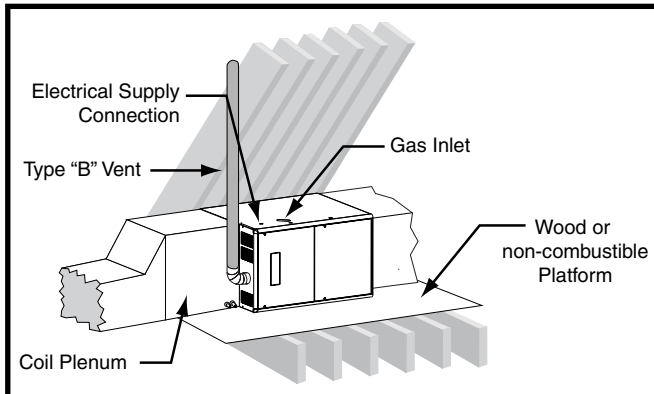
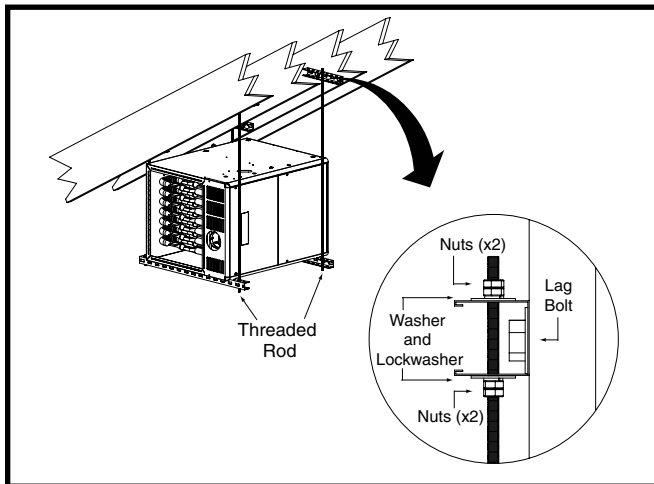

Figure 7. J801X*U Horizontal Installed on a Platform
Figure 8. J801X*U Horizontally Suspended in Attic
- The J801X*U series gas furnace can be installed horizontally (Figure 7) in an attic, basement, crawl space or alcove. It can also be suspended from a ceiling in a basement or utility room in either a right to left airflow or left to right airflow as shown in Figure 8, \(page 12\).
- If installing the furnace with an evaporator coil (in an attic), it is required that a drip pan be placed under the furnace. If the installation is on a combustible platform (Figure 7), it is recommended that the drip pan extend at least 12 inches past the top and front of the furnace. **NOTE:** Although it is not required to use a drip pan for heat only applications, state and local codes may require it.
- If suspending the furnace from the ceiling, assemble a support frame (Figure 8) using slotted iron channel and full